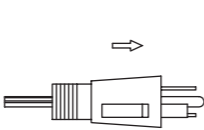

Fig.2
2. Open fuse cover. (See Fig.2)